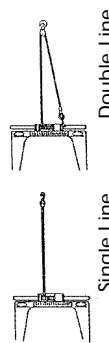

Figure 2
1. THE HUSKY 10 winch is rated at 10,000 pounds capacity. **DO NOT OVERLOAD. DO NOT ATTEMPT PROLONGED PULLS AT HEAVY LOADS.** DO NOT MAINTAIN POWER TO THE WINCH IF THE MOTOR STALLS. Overloads can damage the winch and/or the wire rope and create unsafe operating conditions. FOR HEAVY LOADS, WE RECOMMEND THE USE OF THE OPTIONAL PULLEY BLOCK AND HOOK ASSEMBLY (PART NO. 7750A) TO DOUBLE LINE THE WIRE ROPE (FIG. 2). This reduces the load on the winch and the strain on the wire rope by approximately 50%. If attaching back to vehicle, attach to the frame or other load bearing part.